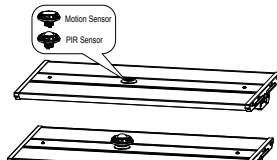

Figure 16
Step2. Twist-lock the DC sensor to the base to make it work properly, use a remote control to adjust the working mode as per demand (Figure 16)